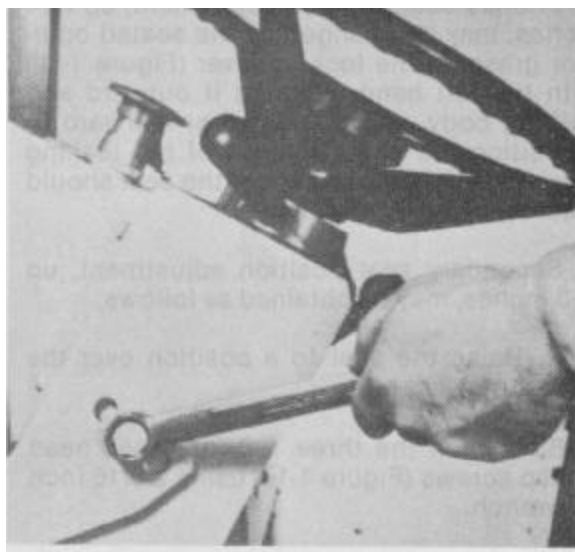

Figure 1-22.
1. Remove the right and left retaining bolts and hardware using a 3/4" wrench (Fig. 1-22).